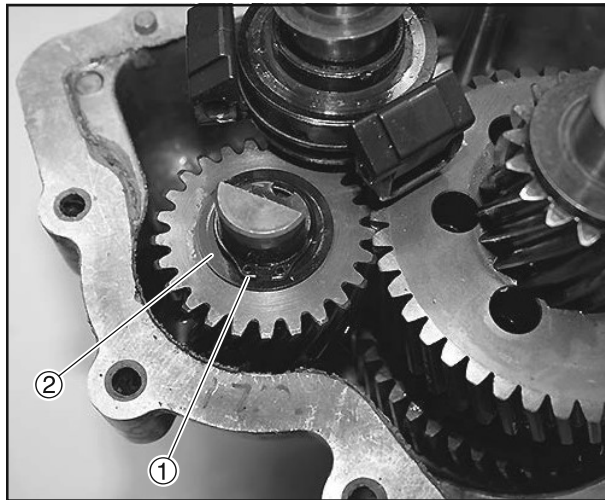

Figure 6-76
10. Remove the retaining ring (Figure 6-76, (1)) and the plate washer (Figure 6-76, (2)).